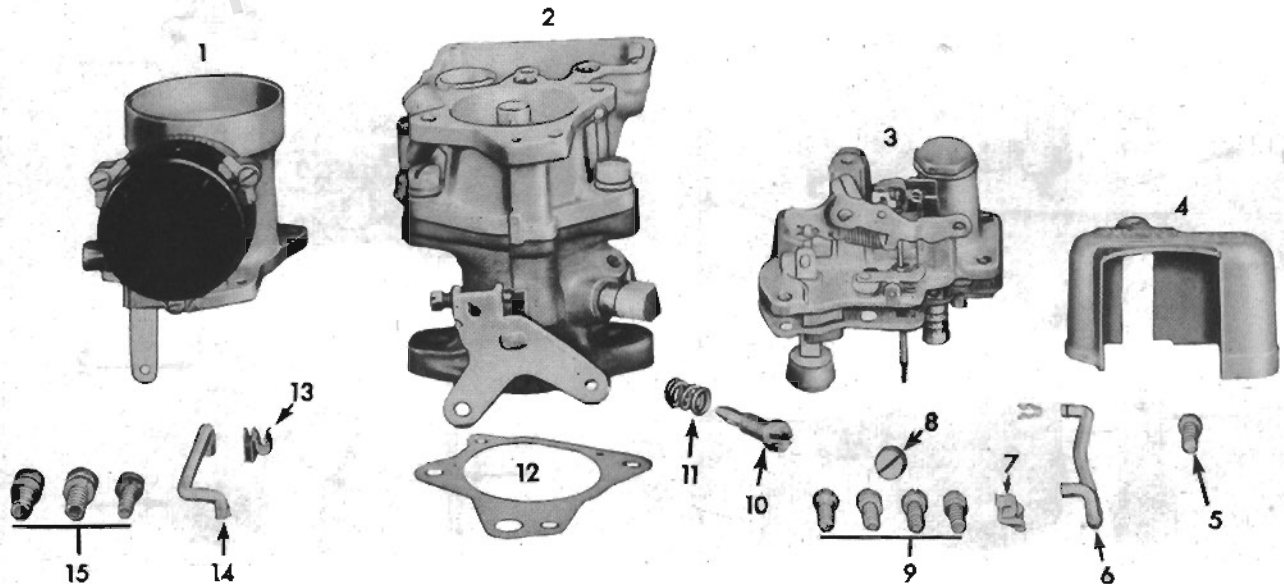

FIG. 27
Remove the dust cover (4, Fig. 27) from the bowl cover assembly (3). Then disconnect the choke connector rod (14) from the fast idle link by unhooking the retainer clip, and remove the choke connector rod. Next remove the idle adjustment screw (10) and spring (11) from the throttle body. Remove the screws (15) holding the air horn and climatic control assembly (1) to the main body (2) and remove the assembly. Remove the air horn gasket.